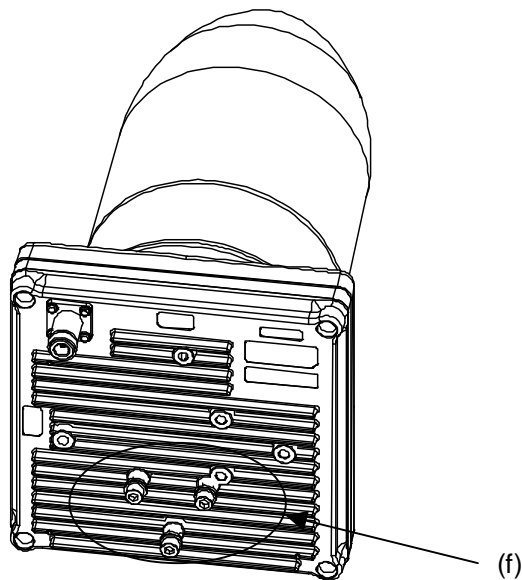

Figure 5-4 Finger-tightening the Mounting Bolts to the AP-RFU
- (2) As shown in Figure 5-4, finger-tighten the bolts (f) in the threaded holes on the rear of the AP-RFU.